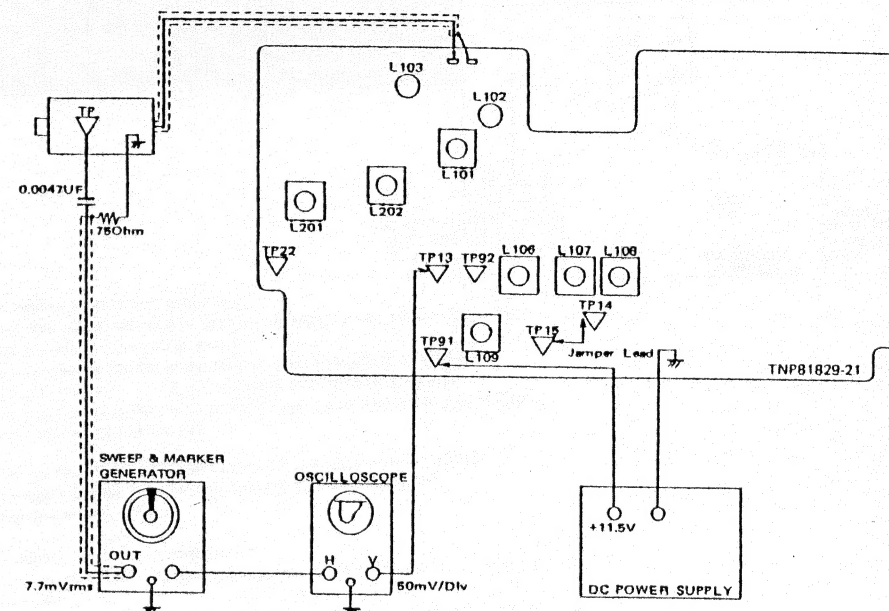

Fig. 14
1. Sweep & marker generator, oscilloscope and DC power supply Connect and set as shown in Fig. 14
2. Connect the jumper lead between TP14 and TP15 as shown in Fig. 14